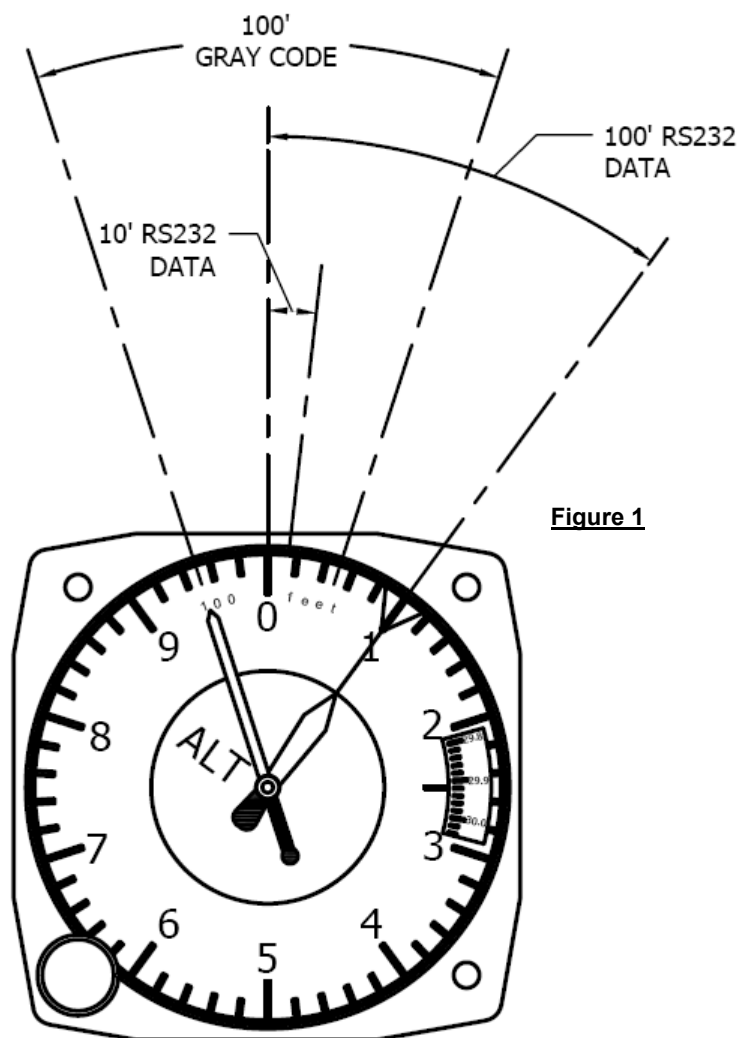

Figure 1
1.9 Figure 1 - Serial Data Offset
Figure 1 displays the ideal case for 11,000 feet.